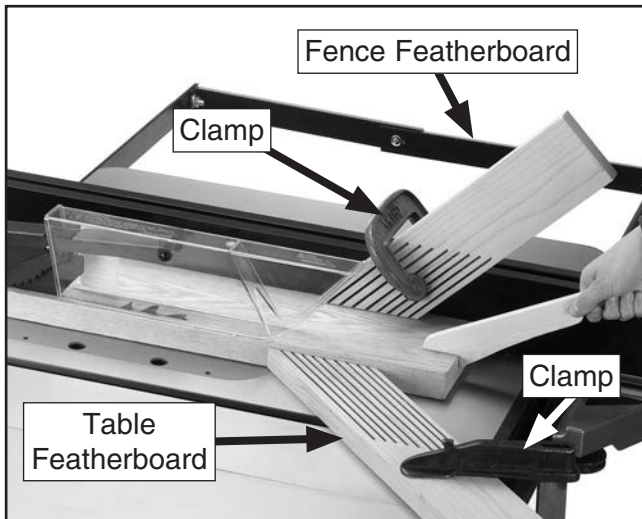

Figure 73. Example of featherboards secured with clamps.
3. Place a featherboard on table away from blade so all fingers point forward and contact workpiece (see **Figure 73**).